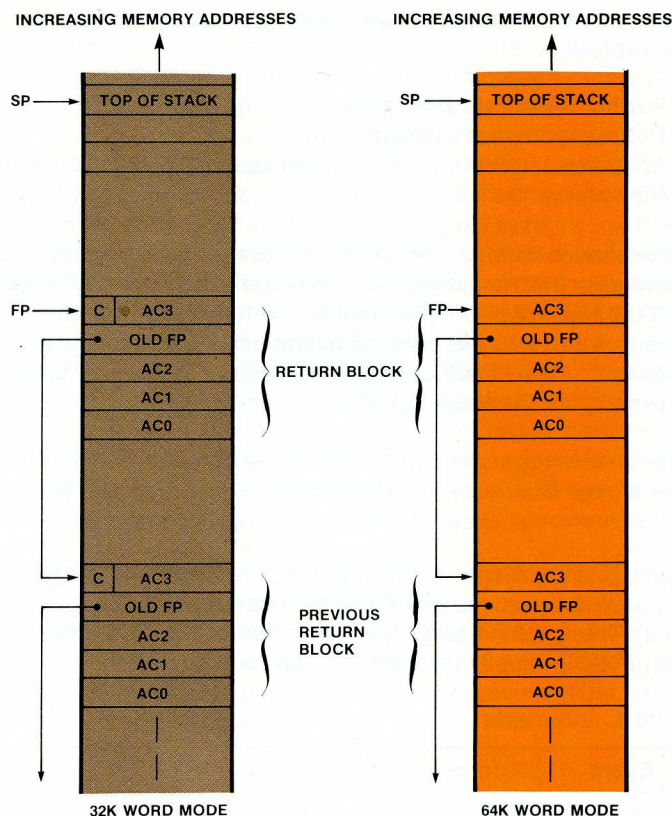

Fig. 5 Data Organization in a Stack (LIFO)
Stack manipulation instructions manipulate the registers and memory in stack-associated operations. The stack operations use a stack pointer (SP) that points to the top of stack and a frame pointer (FP) that serves as an environment pointer, pointing to the "return block" (Figure 5).